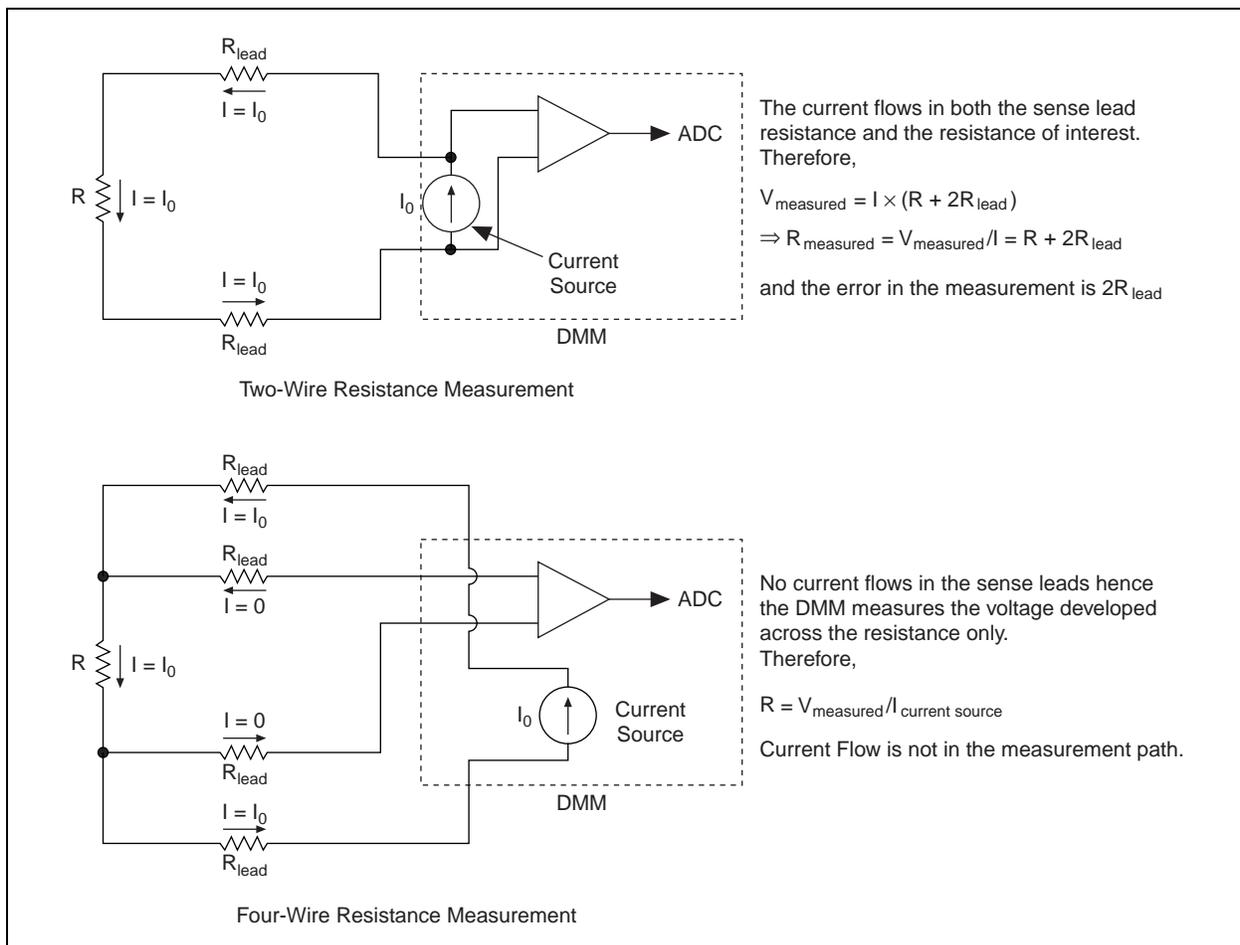

Figure 2. Two-Wire and Four-Wire Resistance Measurement Methods
- **2-Wire Resistance Measurement** – a method of measuring resistance that uses only two test leads. To measure resistance, the voltmeter typically passes a current through the resistor of interest and then measures the voltage developed across this resistor. In this method, both the injected current and the sensed voltage use the same pair of test leads, as indicated in Figure 2.
- **4-Wire Resistance Measurement** – a method of measuring resistance that uses four test leads. One pair is used for the injected current, the other pair is used for sensing the voltage across the resistor. This more accurate method is recommended for measuring resistance below 100 Ω . The improved accuracy is achieved because the test leads resistances are removed from the measurement path as indicated in Figure 2.